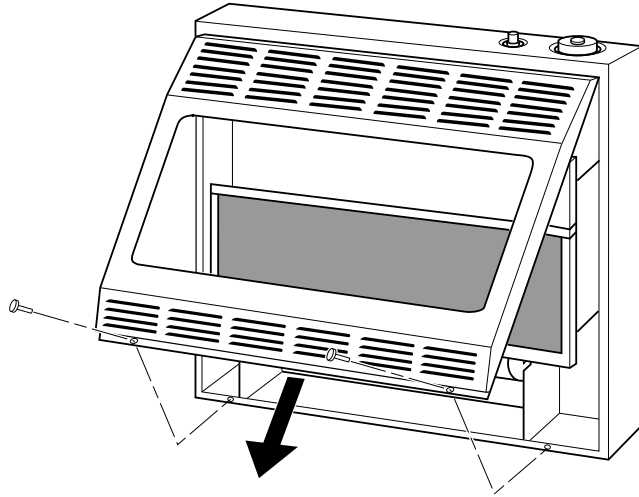

Figure 2 - Removing Front Panel of Heater
2. Pull bottom of front panel forward, then down (see Figure 2) .